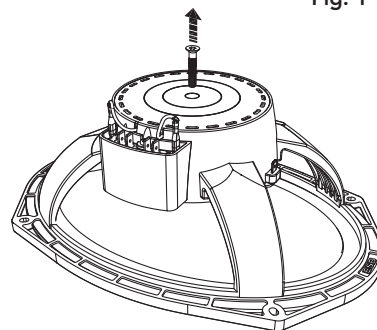

Fig. 2
- 2- Unscrew the long back screw with T20 Torx screwdriver and remove it completely (Fig. 2). These screws will be not used on separate system, but can be saved for go back to previous setting.